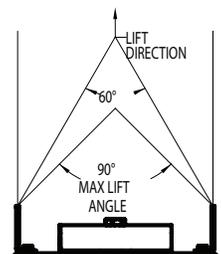

Figure 3
To avoid injury to personnel, ensure the four (4) 5/16-18 bolts are torqued to 11 ft.-lbs. on each of the two (2) lifting plates before attempting to lift the enclosure. Always lift enclosures using BOTH lifting plates. Always verify all clamps are fully engaged and holding body and cover together before lifting. Use appropriate lifting equipment to ensure a lift angle of 90 degrees or less is maintained (see Figure 3).
- Position enclosure on mounting surface with mounting feet on the lower two (2) mounting bolts. While continuing to support the enclosure in position, install the top two (2) bolts. Tighten all four (4) mounting bolts securely in place.